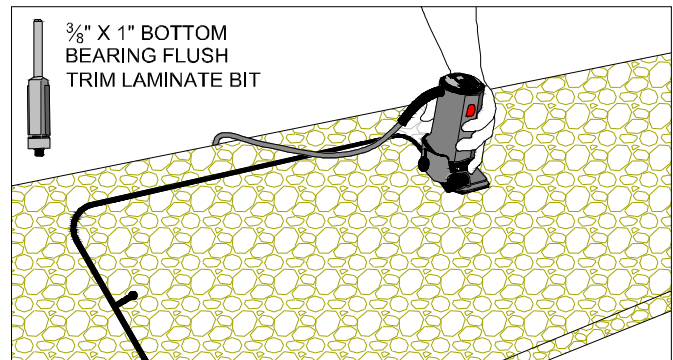

Figure 17B
- Use a laminate tilt-base trim router with a $\frac{3}{8}$ " bottom bearing double-fluted flush trim bit, remove the laminate over the sink. (FIG. 17B)